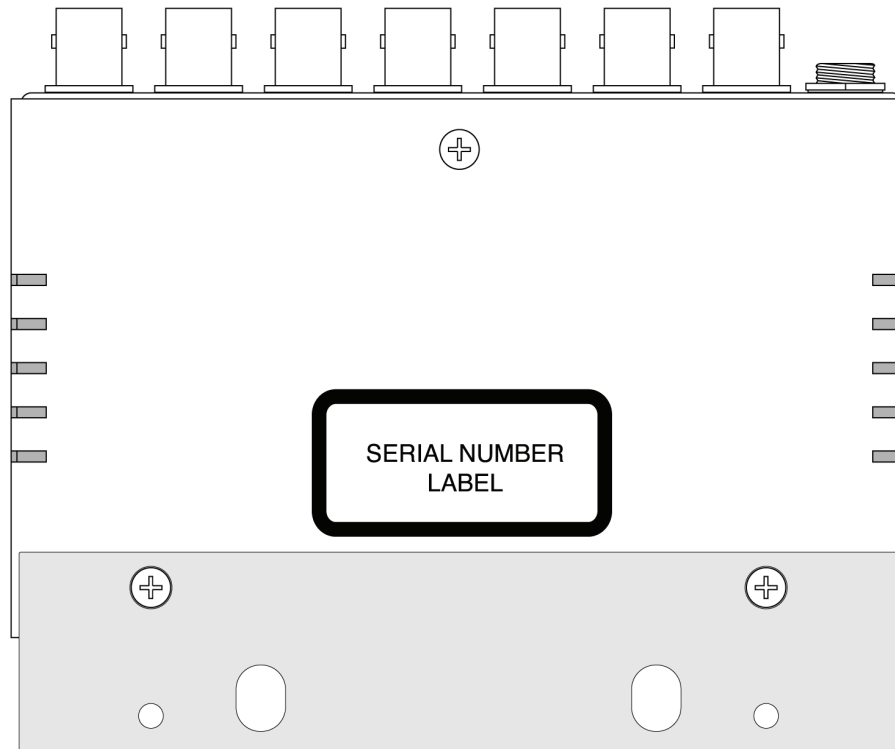

Figure 3. Flat Metal Plate Installation Option
1. Affix the flat metal plate to the bottom of the chassis using the chassis screws as shown in Figure 3.